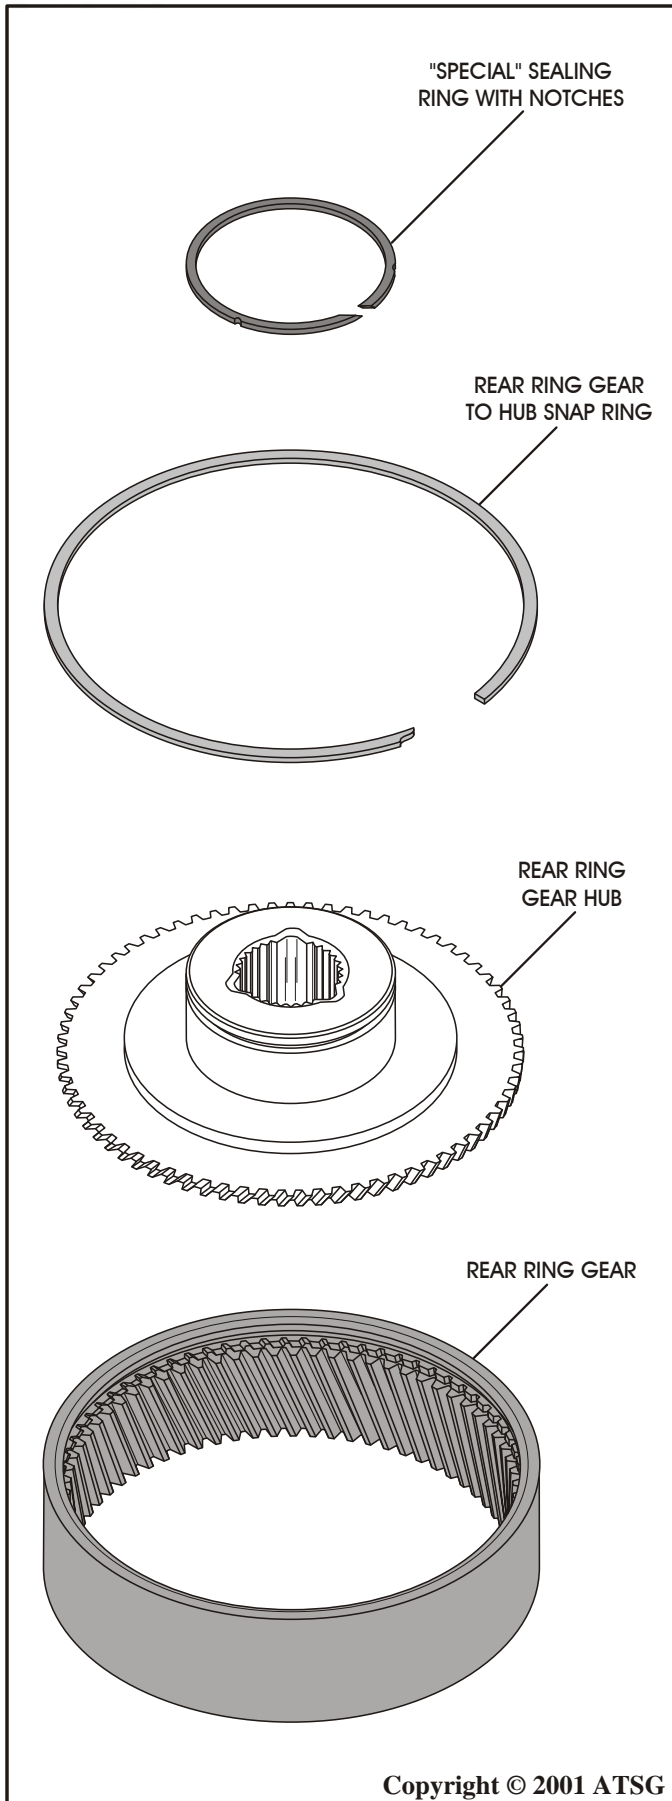

Figure 97
1. Inspect all rear ring gear parts thoroughly as shown in Figure 97.
2. Remove and discard the sealing ring on the rear gear hub, as shown in Figure 97.
3. Assemble the rear ring gear hub into the rear ring gear and install the snap ring, as shown in Figure 97.
4. Install a new sealing ring into the groove in the ring gear hub, as shown in Figure 97.